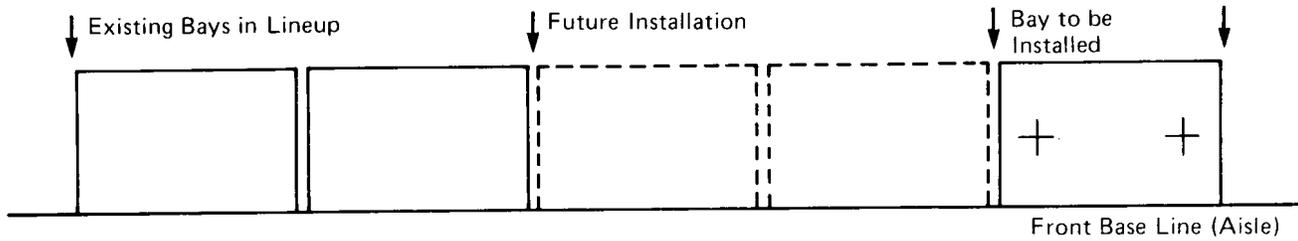

Fig. 4 – Marking Floor for Bay Installation
- (1) Verify that the area dimensions and the location of floor plugs and other reference points correspond to the floor plan drawing.
- (2) Where reference points (e.g., floor plugs) are not accessible due to floor coverings or other equipment, locate reference lines from cable holes or other frames already in place.
- (3) Where the equipment area is new, use according to standard procedures, a chalkline and felt pen to mark the bay aisles and determine the front base line of the aisle.
- (4) Where the bay assembly extends or fills an existing aisle, mark the front-of-bay line with a felt pen and any convenient straight edge. See Fig. 4 for a sample sketch.